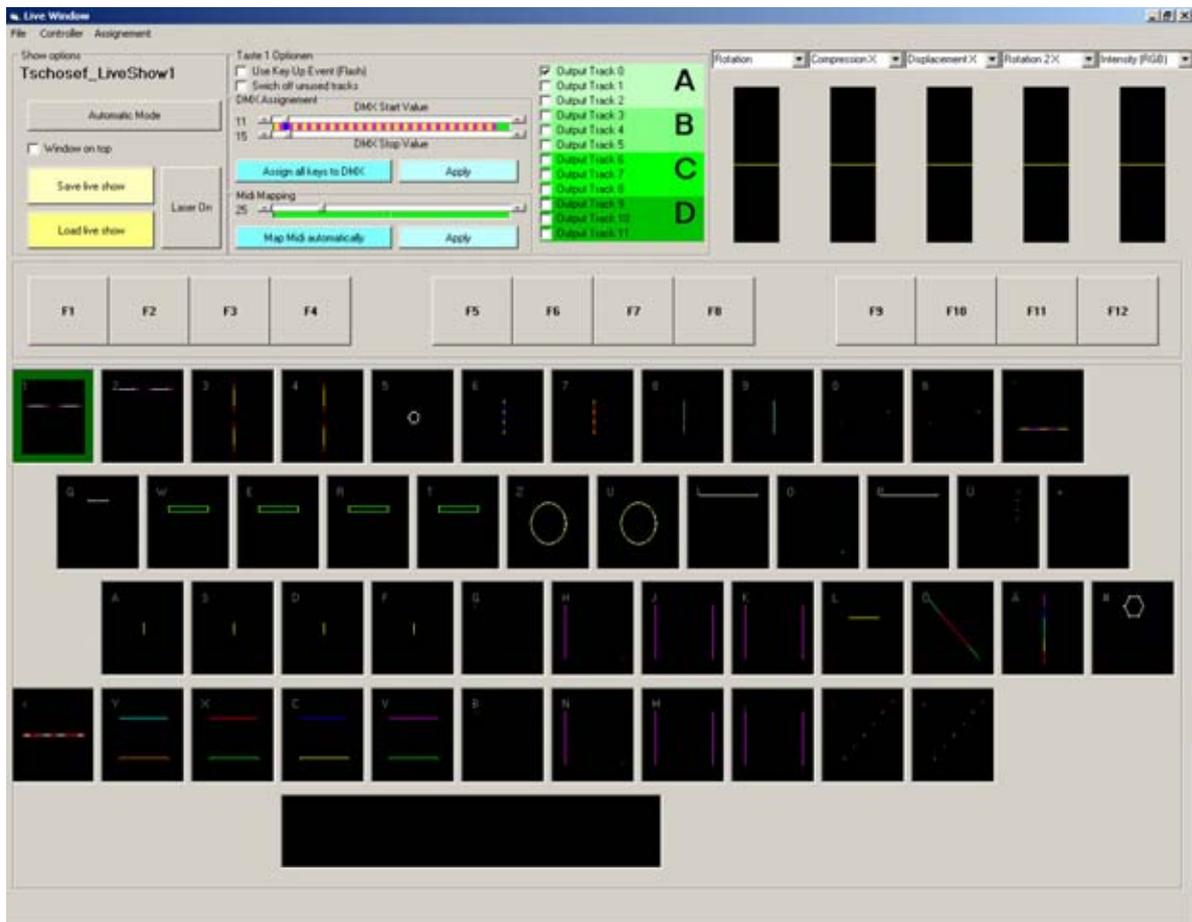

Fig.24: Live-Window after loading a live show.
To load a ready prepared Live Show you can use the menu “File” → “Load Live Show”. Another way to load a Live Show is the following: Open the Live-Window and push the button “Load Live Show”. Once a show has been loaded, this can be accessed again quickly via the menu File/ List of already loaded shows.As for a music synchroneous show, also all files for the live show have to be stored within one folder. The file extension of a live show is \*.live. After successful loading you see on your screen a window like shown in figure 24.
The actually selected key can be identified by its green surrounding frame (see Fig.24, key 1). The “Space” key switches off all projections.